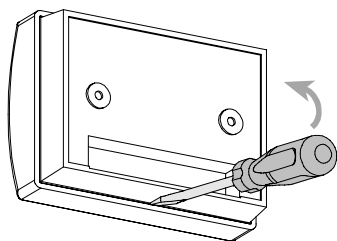

Figure 4. Opening the Unit
- A. Use a screwdriver to separate the cover from the base, as shown in Figure 4. You will find inside a nylon bag with the battery, two masonry anchors (wall plugs) and two mounting screws.